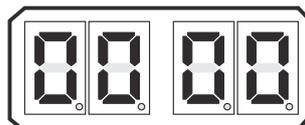

Figure 10-7: Display Station A/D's No Station Transfer Button Depressed
- A Depress the Up or Down (scroll) Push Button until four zeroes are displayed without decimal points as shown in Figure 10-7: Display Station A/D's No Station Transfer Button Depressed.